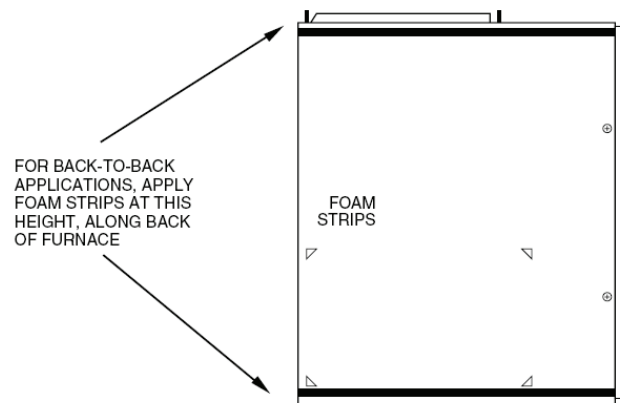

Fig. 5 - Location of Foam Strips
3. Apply two factory-supplied foam strips to mating side of one furnace. Locate strips equal distance from top and bottom as shown in Fig. 5.